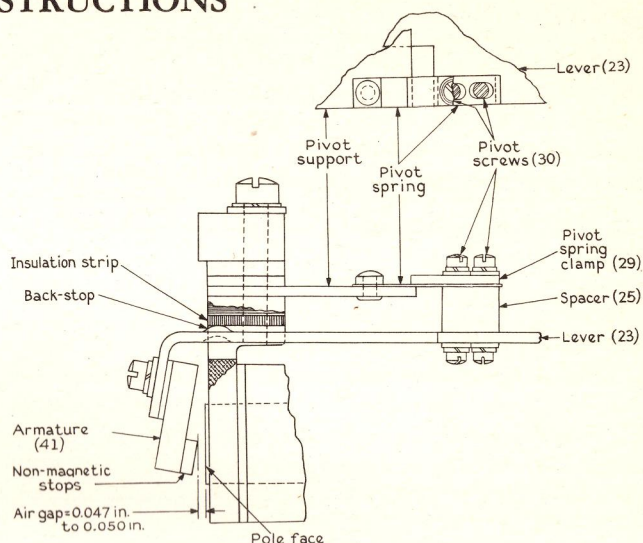

Fig. 7. Adjustment of armature air gap and pivots
Check the air gap (see Fig. 7) between the armature (41) and the pole faces. Make sure that the backstop on the lever rests against the insulation strip above it when the gap is being checked. If the gap is not 0.047 to 0.050 inch as specified, adjustment may be made by loosening the two pivot screws (30) at each pivot, inserting a 0.047-inch-gage block in the air gap, and tightening the screws while holding the armature tight against the gage and pressing the backstop firmly against the insulation strip above it.
1. Check the clearance between the finger-lifter (45) and the contact bar (49). If they should touch in any position of lever, the contact bar may be bent slightly away from the finger-lifter (or the lever may be bent slightly) to give the finger-lifter proper clearance.
3. Check the pivot springs (Fig. 7). Spring clamps (29) should be straight and springs should lie flat and fairly well aligned with one another. Bent springs or clamps should be replaced.
The backstop on the lever (Fig. 7) should rest against the insulation strip above it when the lever is in free position. If it does not:
Referring to Fig. 7, adjust the air gap between the armature and the pole pieces. Loosen the top pivot screws and place a 0.047-inch gage block in the air gap. With the armature held firmly against the gage and the backstop pressed firmly against the insulation strip above it, tighten the pivot screws. The pivot springs should be aligned with